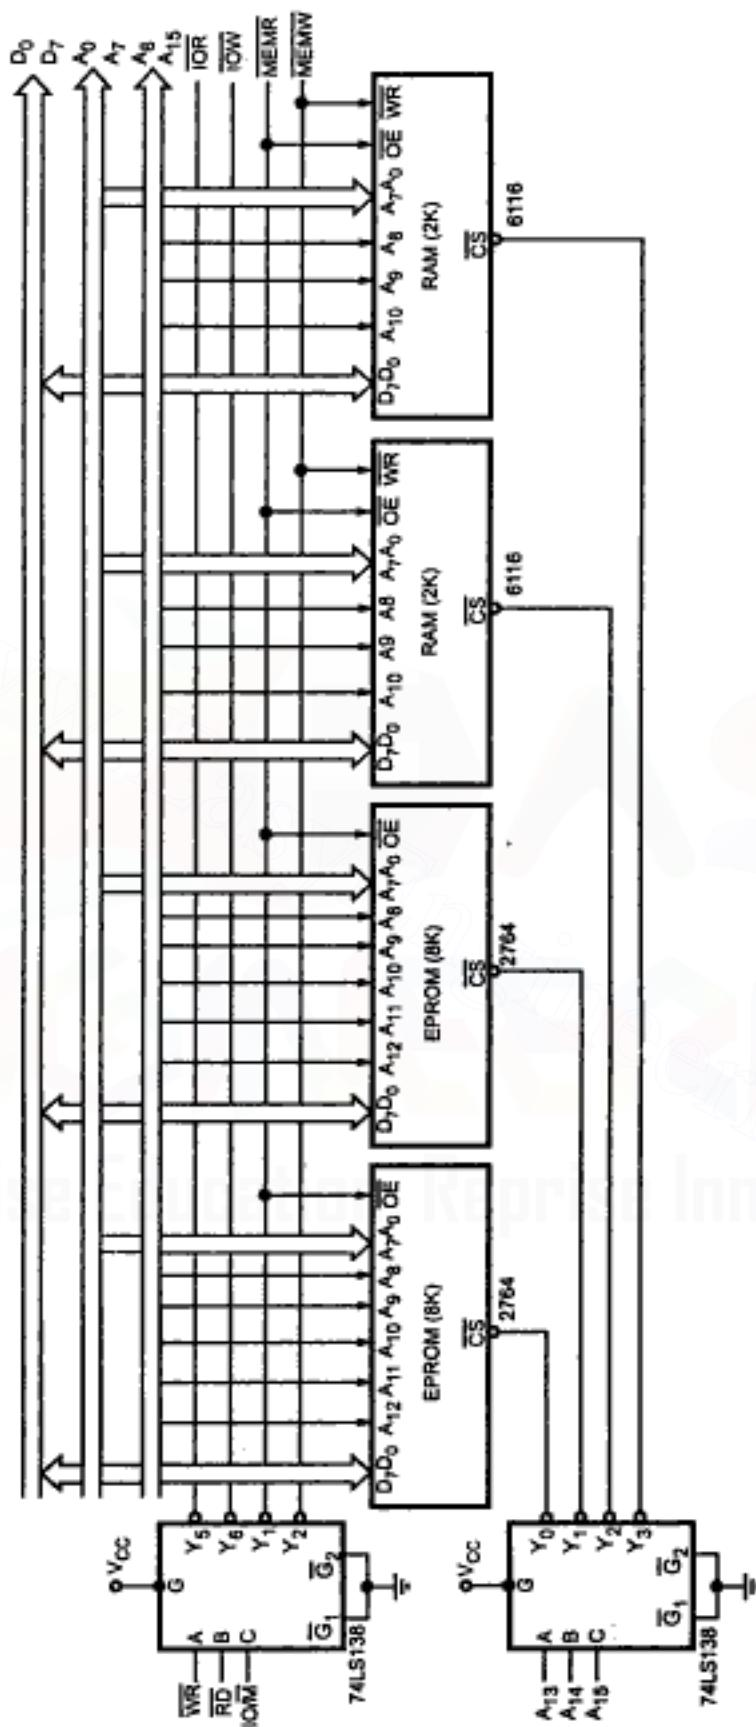

Fig. 6.20 Memory system using two (8K x 8) EPROMs and two (2K x 8) RAMs
Solution : Fig. 6.20 shows the desired memory system using two (8K × 8) EPROM and two (2K × 8) RAMs. EPROM memory is 8K, so it requires 13 address lines (A₁₂ - A₀) whereas RAM memory is 2K, so it requires 11 address lines (A₁₀ - A₀). The remaining higher address lines (A₁₅ - A₁₃) are used to generate chip-select (CS) signals. Table 6.7 shows the memory map for the designed circuit. (See Fig. 6.20 on next page)